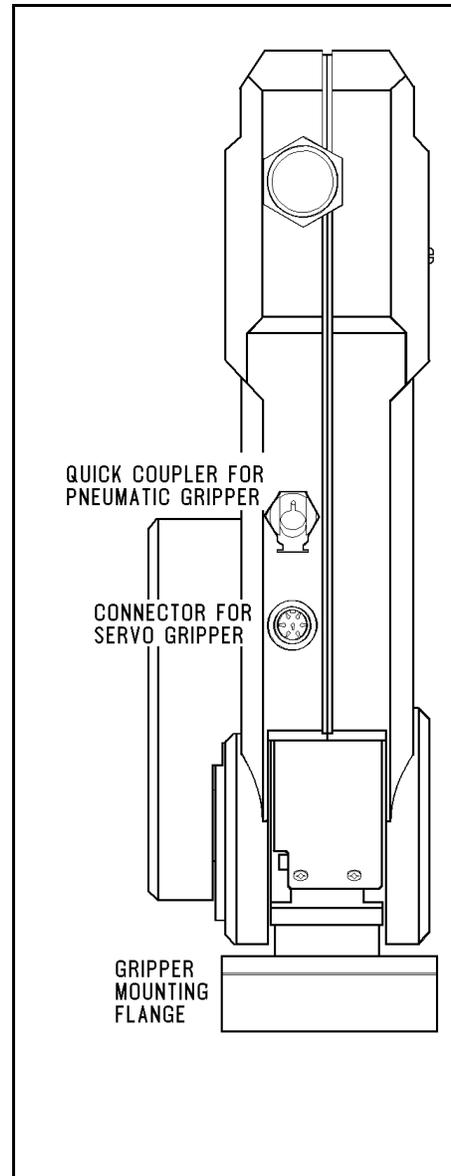

Figure 4-8: Gripper Connectors
3. Connect the coiled double hose from the gripper to the quick coupling on the robot's forearm, as indicated in Figure 4-8.